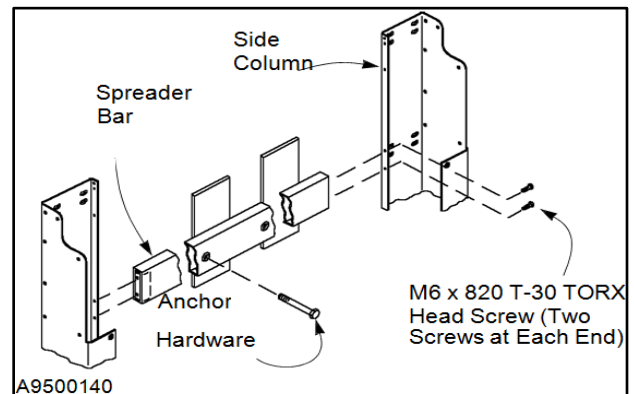

Figure 29
3. Inspect the hardware used to attach the spreader bar to the side columns. Tighten the hardware as required. Replace any missing or damaged hardware. (See Figure 29.)